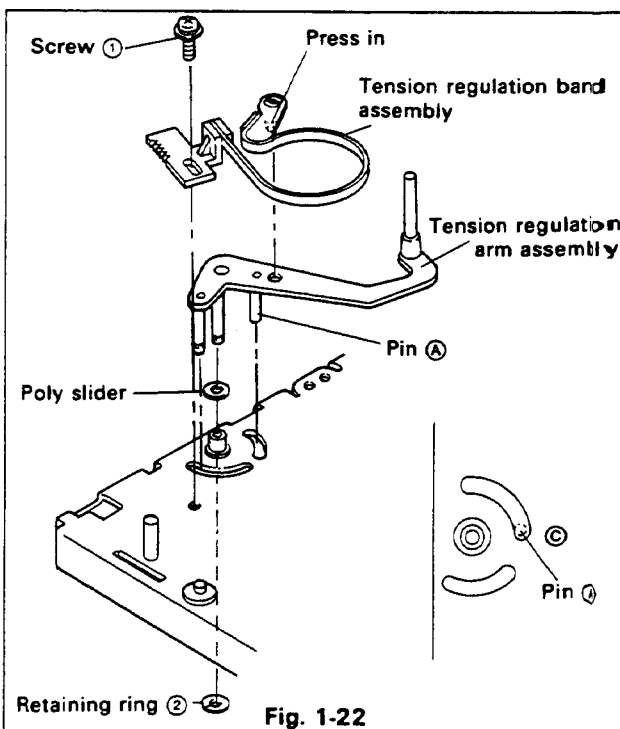

Fig. 1-22
1-22. TENSION REGULATION ARM ASSEMBLY (Figure 1-22)
1. When installing the tension regulation arm assembly into place, pin A should fall into position C as shown in Fig. 1-22.